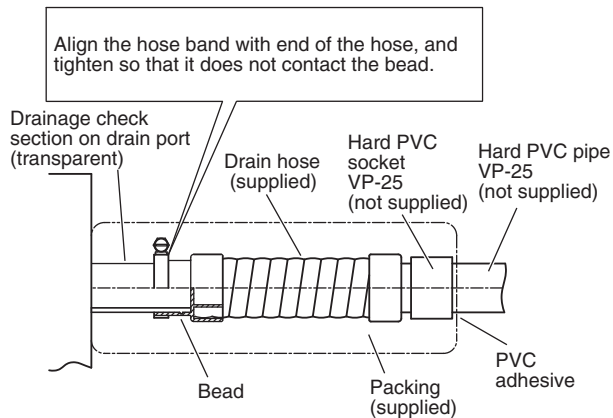

Fig. 1-97
The transparent drain part on the unit allows you to check drainage. (Fig. 1-97)
- Tighten the hose clamps so their locking nuts face upward. (Fig. 1-97)